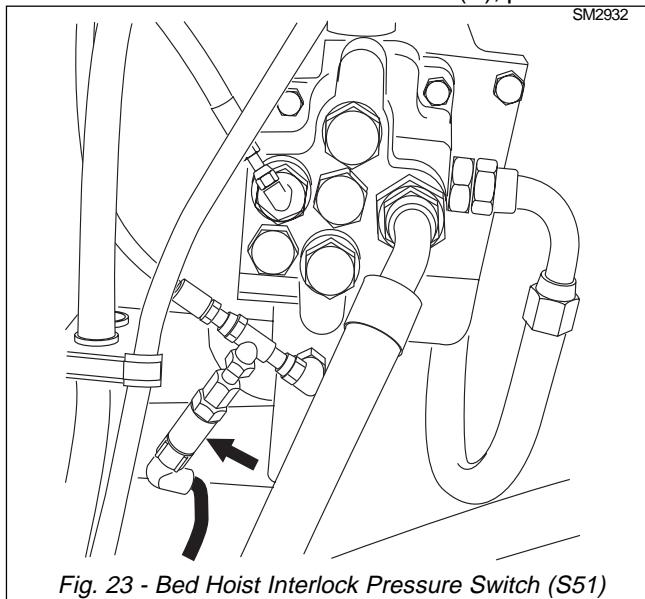

Fig. 23 - Bed Hoist Interlock Pressure Switch (S51)
4. Bed Hoist Interlock (Reverse Hoist Interlock) - The ECU shifts the transmission to neutral (N) if the body is raised when the transmission is in a selected reverse gear (R). To over-ride this function, stop the truck, shift gear shift selector to neutral, than back to reverse. The ECU receives a signal from pressure switch (S51) located on the raise circuit on the body control valve (Fig. 23). This signal request the interlock function via wire 177 to the ECU vehicle connector (V), pin 14.